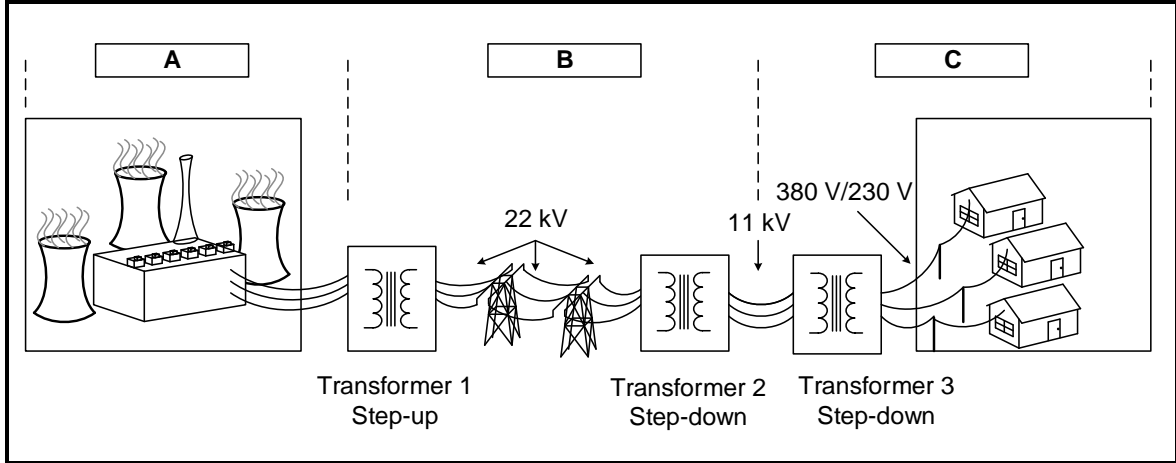

FIGURE 4.1: NATIONAL GRID
4.1 FIGURE 4.1 below is a block diagram of the national grid. Answer the questions that follow.